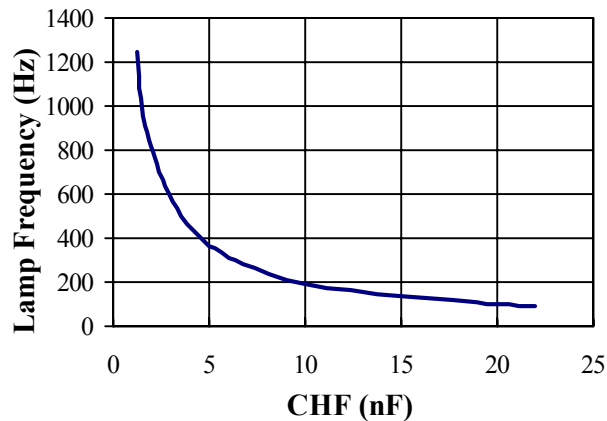

Figure 1: Typical Lamp Frequency vs. CLF Capacitor
Selecting the appropriate value of CHF capacitor will specify the inductor switching frequency (HF) and the lamp frequency (LF) of the D365 EL driver. A divider circuit in the internal oscillator circuitry of the D365A divides the inductor switching frequency by 72 to get the lamp frequency ($LF = HF/72$). Lamp frequencies of 200 – 500 Hz are typically used for longer EL lamp life. Figure 1 graphically represents the effect of CHF capacitor value on the lamp frequency oscillator at $V_+ = 3.3V$. In this example at $V_+ = 3.3V$, $LF = 2000 \text{ nF-Hz}/CHF$.